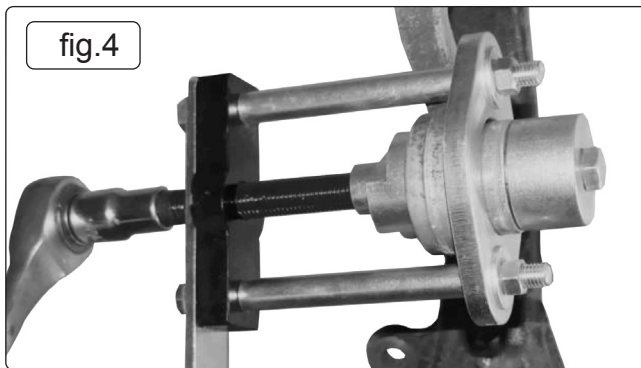

fig. 4
- 5.1.6. Position frame over control arm bush and extend force screw so it's located into the recess of the adaptor, fig. 4.